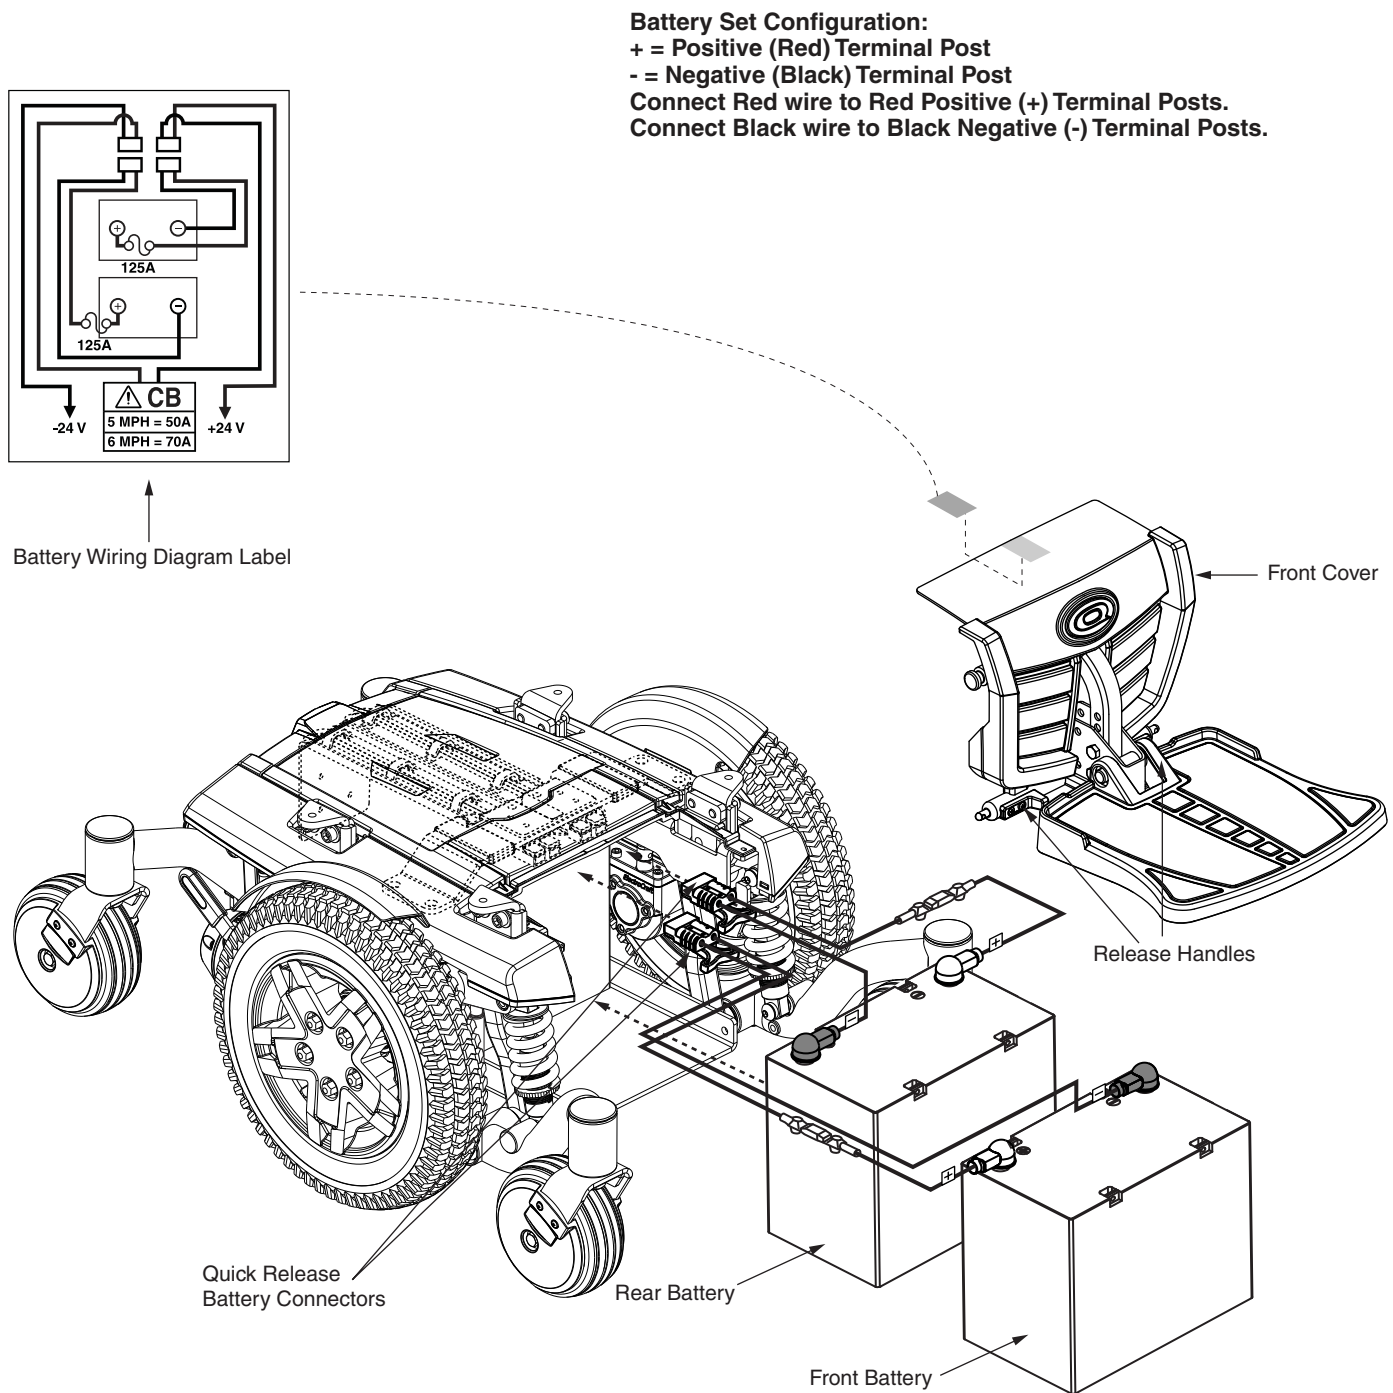

Figure 23. Battery Installation
3. Remove the front cover by squeezing the release handles (**see figure 23**) and lifting the front cover up and away from the power base.
4. Disconnect the quick release battery connectors. **See figure 23.**
7. Connect the battery harness to the new front battery according to the battery wiring diagram. **See figure 23.**
8. Connect the battery harness to the new rear battery according to the battery wiring diagram. **See figure 23.**